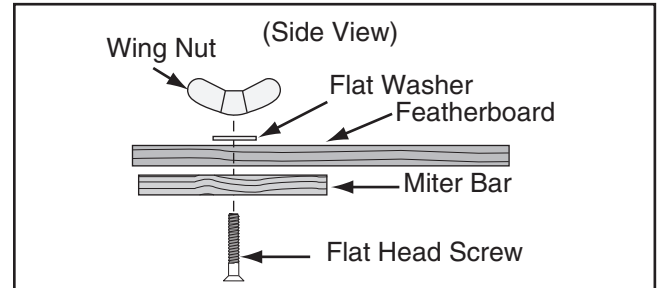

Figure 66. Assembling miter slot featherboard components.
- Assemble the miter bar and featherboard with a $\frac{1}{4}$ "-20 x flat head screw, flat washer, and a wing nut or a star knob (see **Figure 66**). Congratulations! Your featherboard is complete.